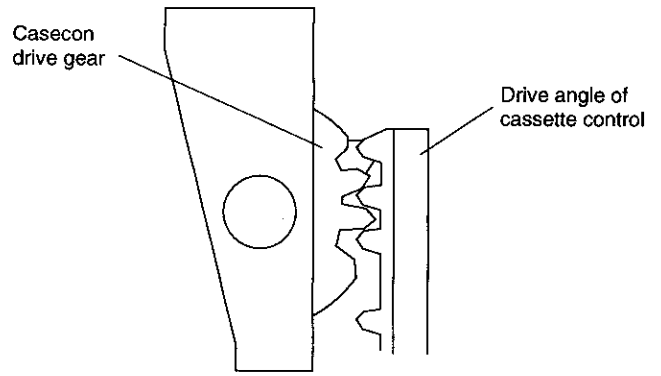

Figure 4-2.
1. Before installation of the cassette housing control assembly, make a short-circuit between TP5005 and TP5006, both located at the center on your side on the main PWB. Plug in the power cord. The cassette control drive gear starts and stops just when the big face gear shows in the mechanism chassis window. Engage the tooth 2 of the casecon drive gear with the tooth 3 of the cassette control drive angle as shown in Fig. 4-2, to position the cassette control on the mechanism chassis.